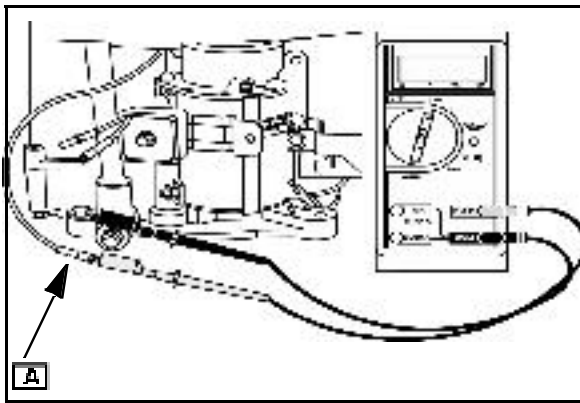

Fig. 20
2. Attach RED test lead clip to green output terminal ([A] Fig. 20).